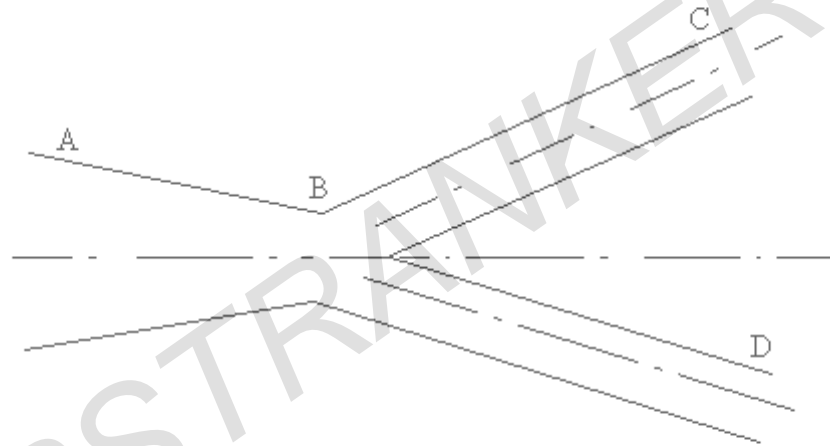

Figure 8c
- (c) Oil flows through a pipeline which contracts from 45 cm diameter at A to 30 cm diameter at B and then branches into two pipes C and D. The diameter of the pipe C is 15 cm and diameter of the pipe D is 20 cm. If the velocity at A be 1.8 m/sec and that at D be 3.6 m/sec Determine (figure 8c)